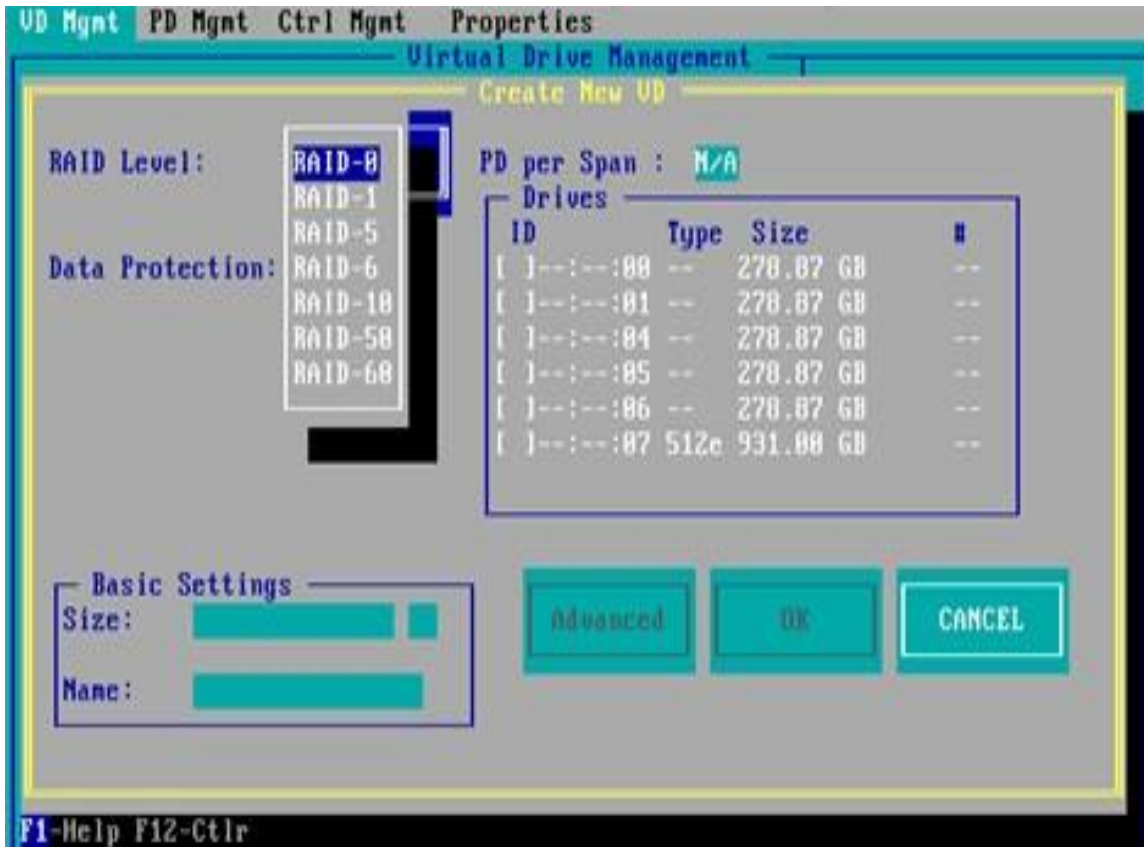

Figure 6-86
d) Enter the interface shown in figure 6-86, set the RAID level, and press enter.